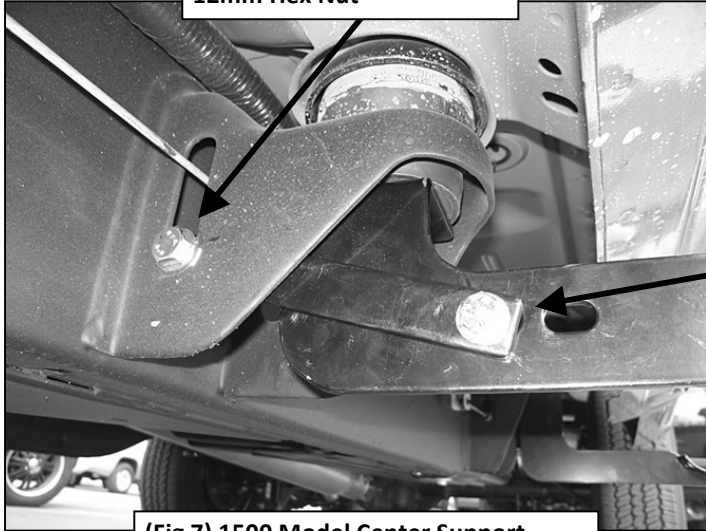

Fig 6
Note that the Front Support Bracket will not reach up to the Mounting Bracket, **(Figure 4)**. Tighten the Support Bracket to the Nut Plate in the frame. Carefully push up on the Support Bracket until it reaches the inside hole in the Mounting Bracket, **(Figure 5)**. Bolt the Support Bracket to the hole in the Mounting Bracket with (1) 10mm x 30mm Hex Bolt, (2) 10mm Flat Washers, (1) 10mm Lock Washer and (1) 10mm Hex Nut, **(Figure 6)**. Do not tighten at this time.